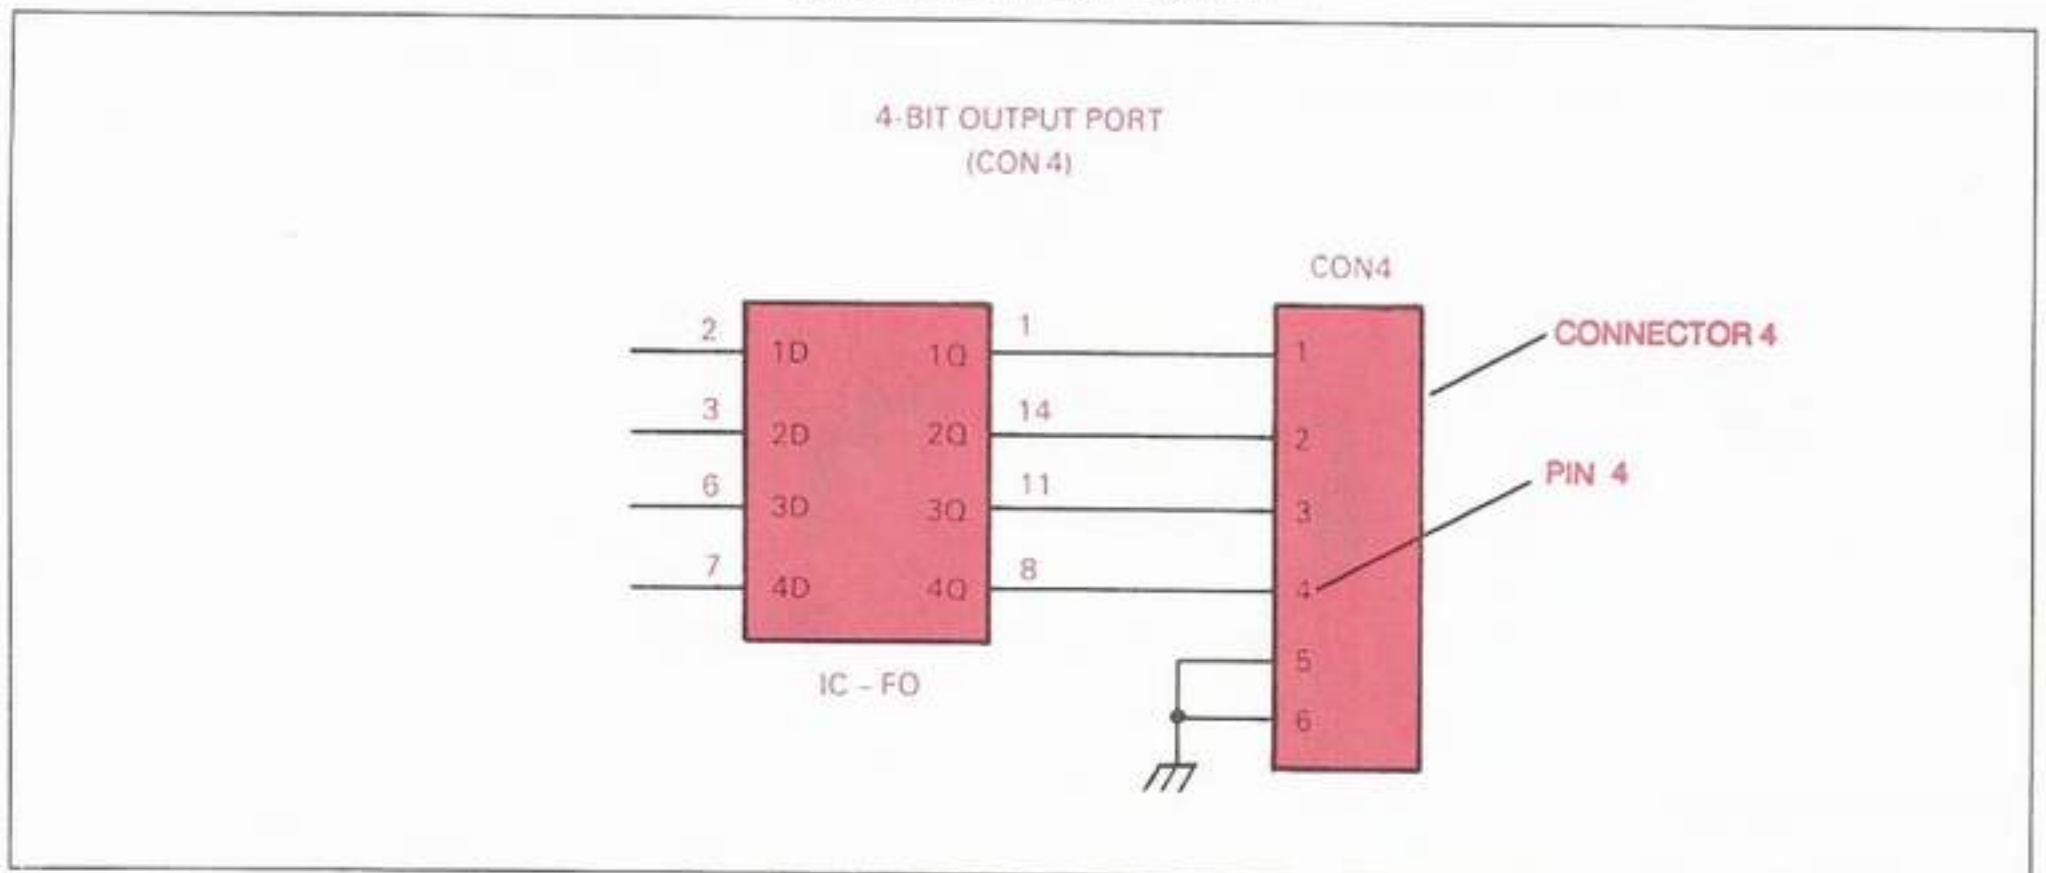

Fig. 88: The 4-bit Output-Port Connector 4
- ___ c. Locate **Connector 4** on the PCB (see Fig. 88) and insert the 6-pin connector plug (wired) onto it, making sure none of the six wires are touching each other.
- ___ c. Locate **Connector 4** on the PCB (see Fig. 88) and insert the 6-pin connector plug (wired) onto it, making sure that none of the six wires are touching each other.